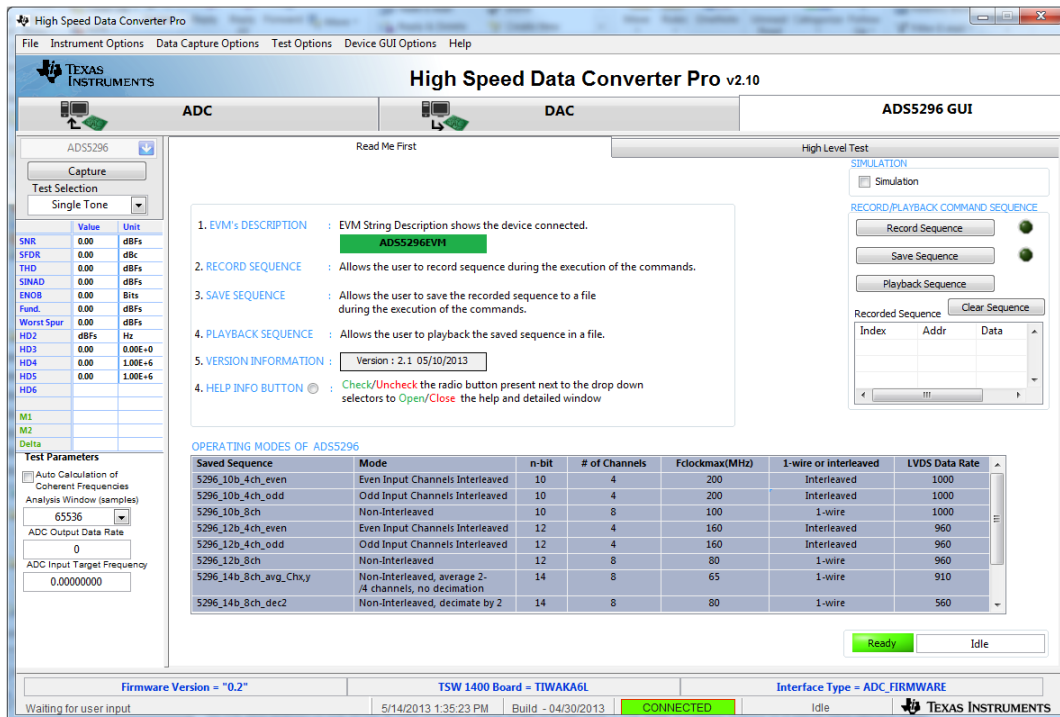

Figure 29. ADS5296 Plug-in GUI Setup (b)
- Click on the tab *ADS5296 GUI* to view the software GUI for the ADS5296A. The GUI consists of two tabs: *Read Me First* and *High Level Test* as shown in Figure 29.